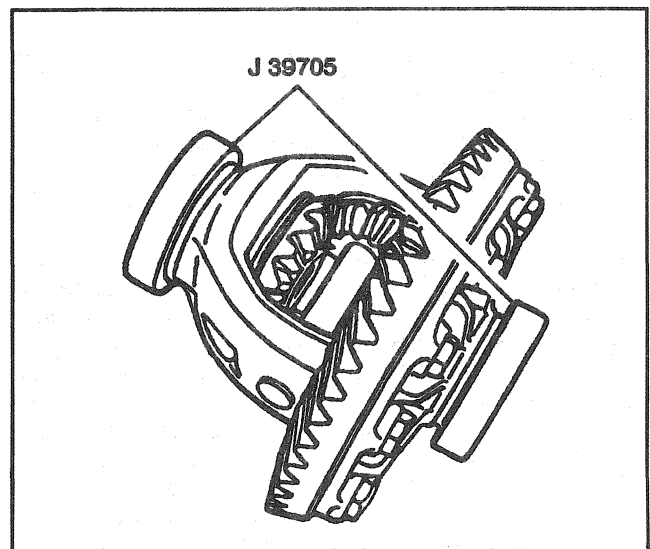

Figure 15—Differential With Master Bearings Installed
10. Master differential bearings J 39705 to the differential (Figure 15).